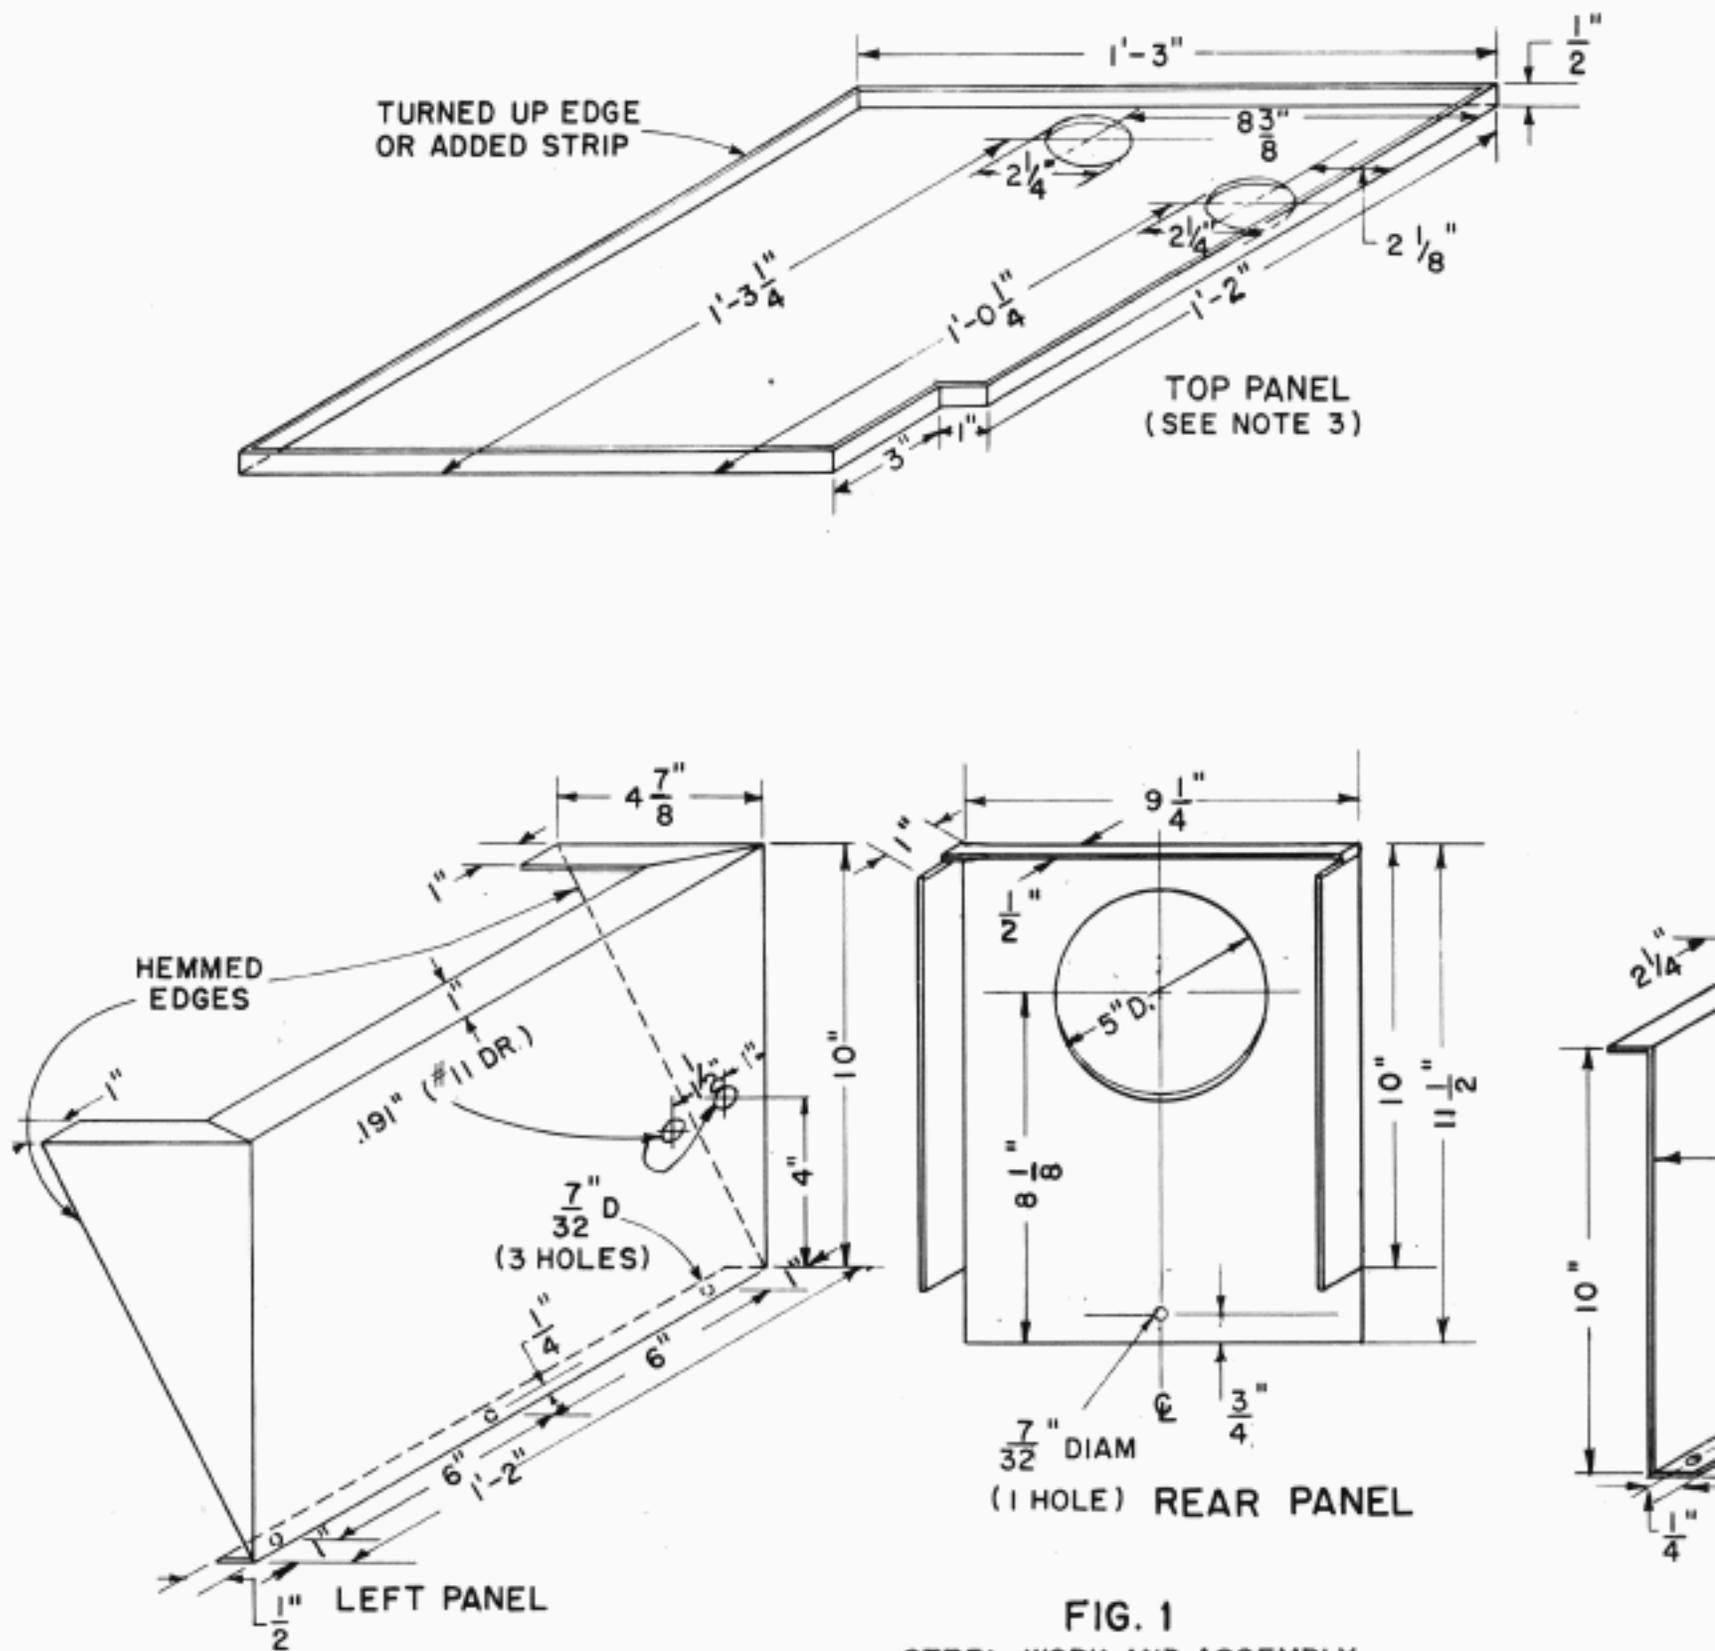

FIG. 1
- 13. FIG. 1 & FIG. 4 MADE MD. IF ANY TABLE IS USED FIG. A FOR METAL AS WELL AS FOR WOODEN TABLES.
13. FIG. 1 & FIG. 4 MADE MD. IF ANY ARE TO BE USED APPLY FIG. A FOR METAL AS WELL AS FOR WOODEN TABLES.
NOTES ON FIG. 1 & 1A
(SEE NOTES ON FIG 1)
ON FIG. 1
FOR USE WITH FIG. 1 ONLY
- ISSUE D - ADDED NOTE II, ADDED GP1 & GP2 TO MATERIAL LIST. ADDED NOTCH IN RIGHT FRONT CORNER. CHANGED MATERIAL IN FIGS 1 & 3
- ISSUE F - MADE FIGS 1, 4 & A MD ADDED FIG 1A & A-1 ADDED NOTE 13. CHANGED DRILLING ON LEFT EDGE OF FIG. C